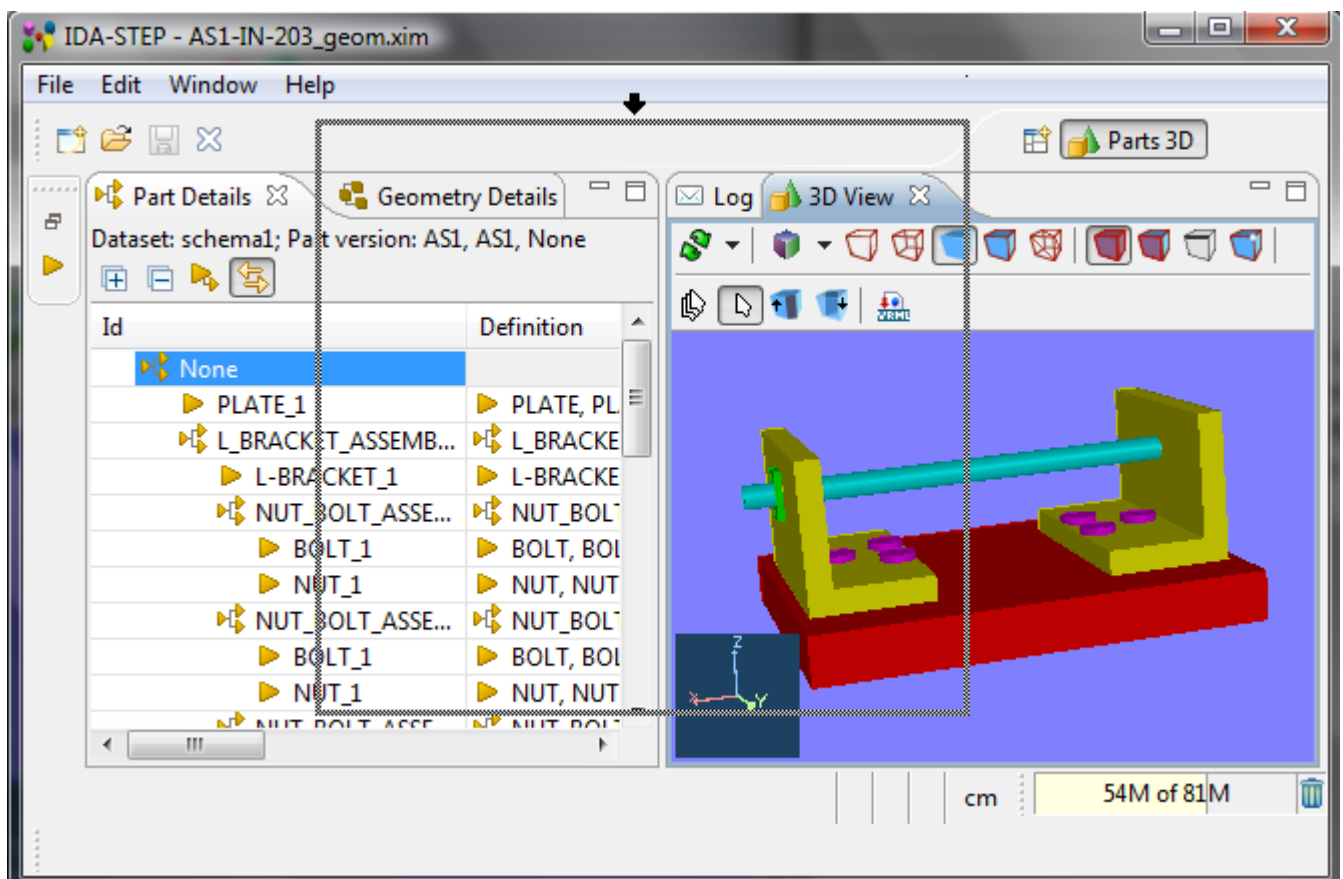

Figure 2. Drop cursor and dynamically moving square
- The *drop cursor* (see Table 1) and a dynamically moving square appears on the screen (see Figure 2).